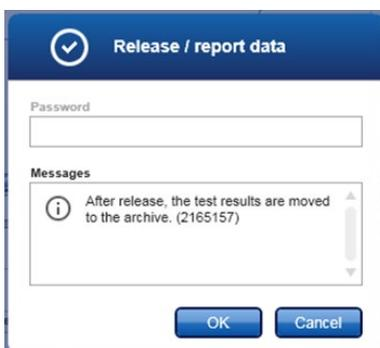

Figure 17. The “Release/report data” dialog box.
12. Click **Release/report data**. The Release/report data dialog box will appear, as shown in Figure 17.